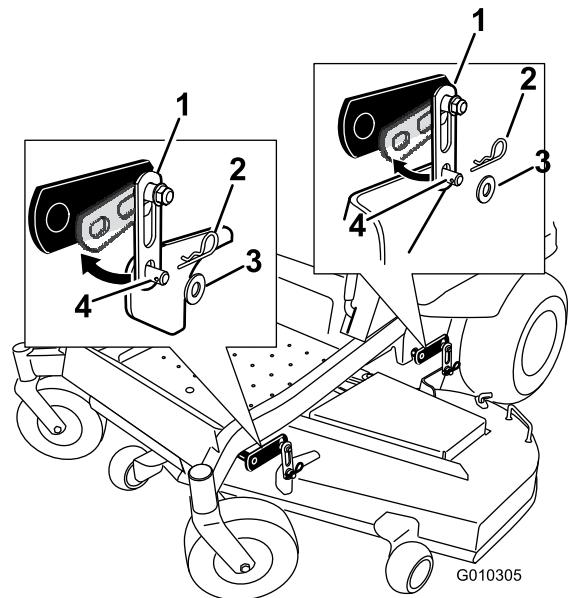

Figure 70
2. Remove the hardware from the front and rear deck hangers on both sides of the deck (Figure 70).
6. Lift the rear of the mower deck and attach the rear support on the mower deck to the rear deck hangers. Secure them with a washer and hairpin cotter (Figure 70).
7. Attach the front support on the mower deck to the front deck hangers, and secure them with a washer and hairpin cotter (Figure 70).